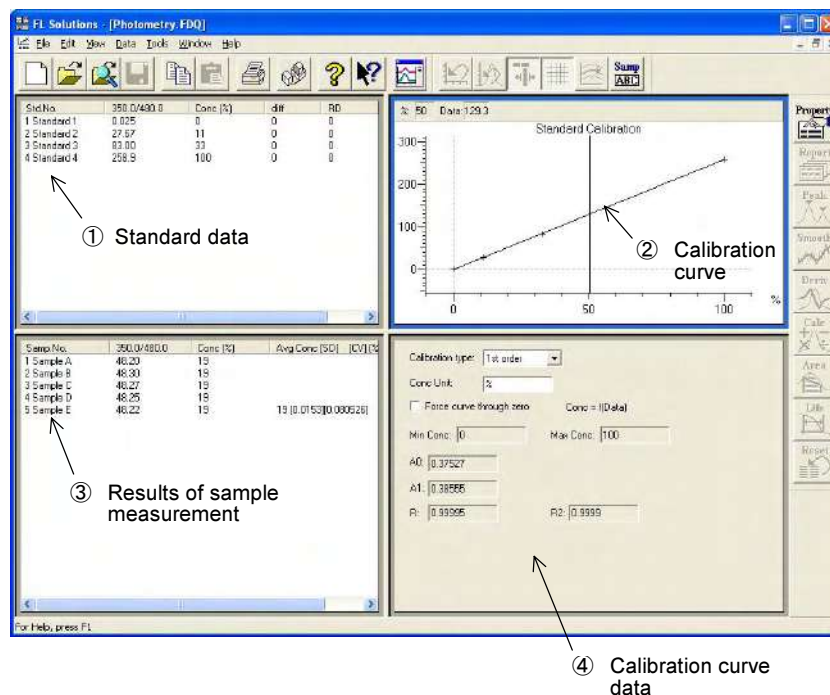

Fig. 4-41 Data Processing Window (photometry)
When measurement of all samples is over, the data processing window shown in Fig. 4-41 will be displayed automatically (only when "Open data processing window after data acquisition" is selected at the Monitor tab in Analysis Method).
Upon completion of photometry or when opening the data file, the data processing window is displayed as shown in Fig. 4-41.
- (1) Click on the spectrum window, and the circumference turns blue. In this status, select the Print command from the File menu.
Or click the  (print) button on the toolbar. The field active on the data processing window (e.g., ② in Fig. 4-41) will be printed. What is displayed by clicking the Print Preview command in the File menu will be printed.